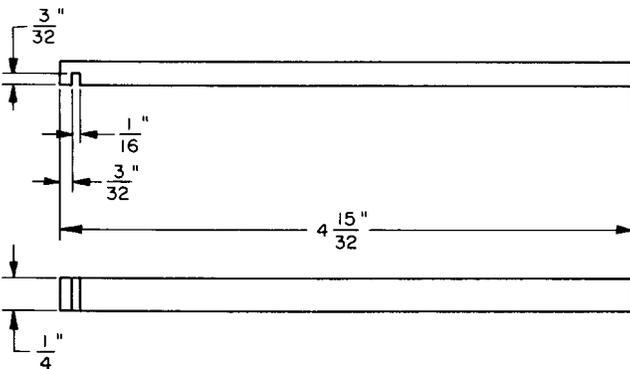

Fig. 5—138 Adjuster Tool
2.05 **138:** The 138 tool (Fig. 5) is a spring adjuster used on the 5-type registers and power driven rotary selectors.